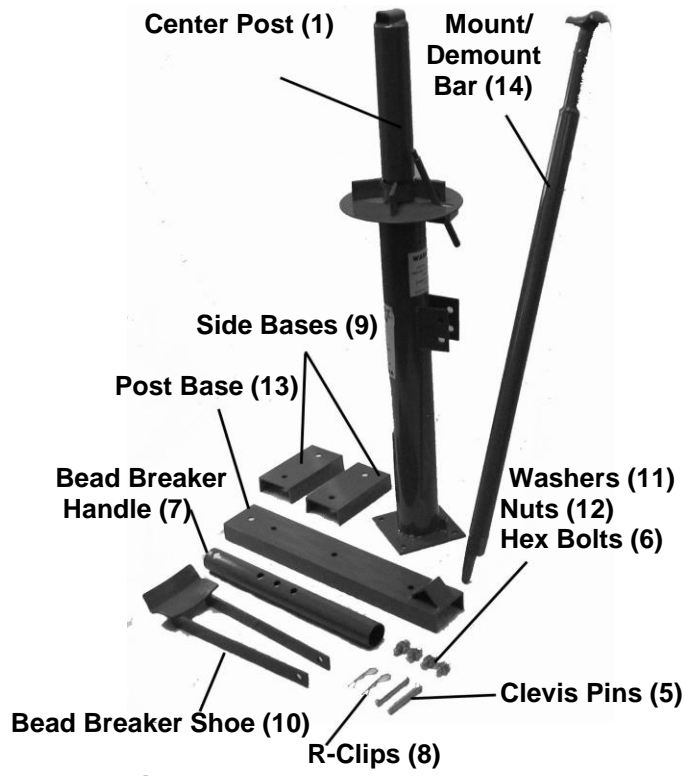

Figure 1
1. The Tire Changer will require some assembly after unpacking. See the assembly components in Figure 1, below.